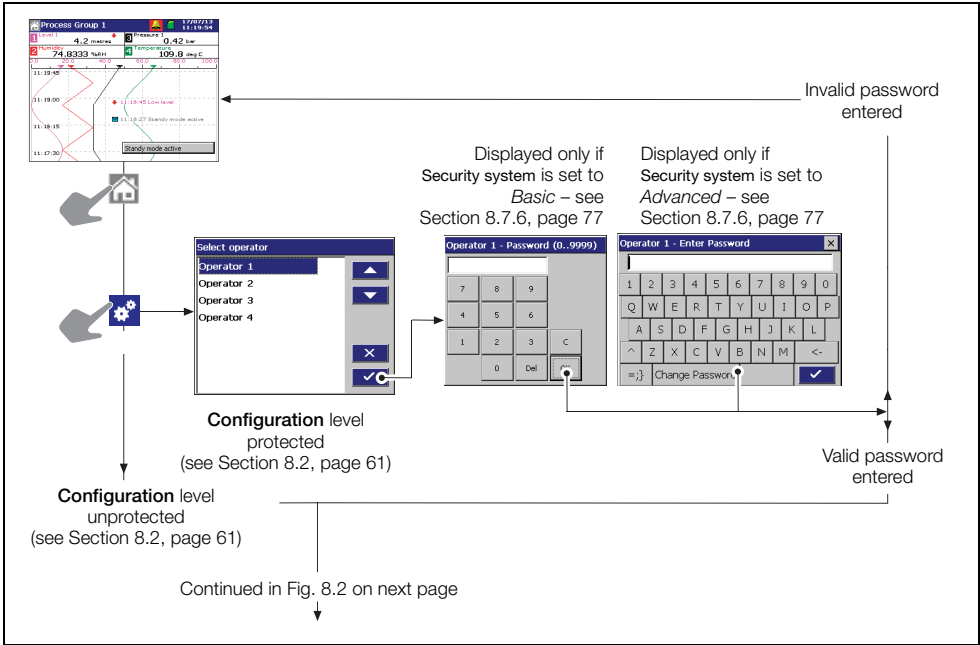

Fig. 8.1 Accessing the configuration level
The **Configuration** level cannot be accessed until the correct password has been entered – see Figs. 8.1 and 8.2, pages 62 and 63 respectively.
1. Access the **Configuration** level – see Figs. 8.1 and 8.2, pages 62 and 63 respectively.
2. Access the **Configuration** level – see Figs. 8.1 and 8.2, pages 62 and 63 respectively.